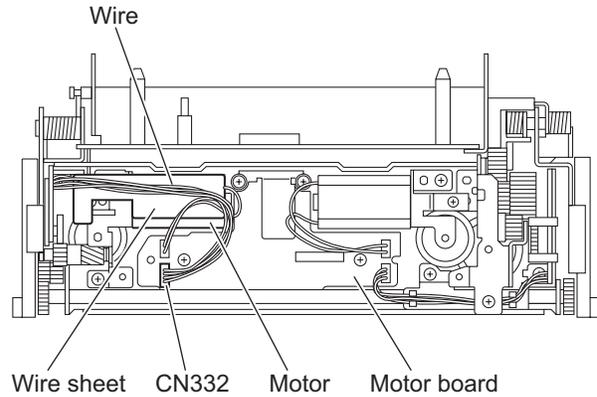

Fig.6
### 3.2.4 Removing the third gear, worm gear and double worm (See Figs.6 to 11)
(1) Remove the wire sheet with the wire from the motor. (See Fig.6.)